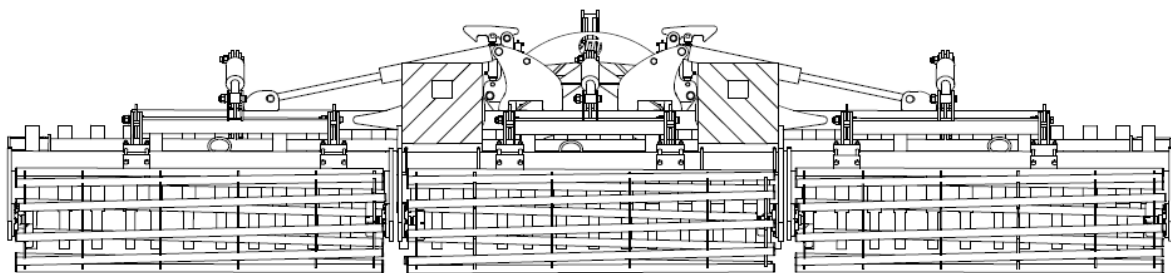

Fig. 8 View of the implement at the completion of the side extension opening sequence. The implement arms are fully open.
5. To complete the opening sequence of the implement side extensions, wait until the hydraulic mechanism opens the arms to their end position. Do not interrupt the opening process of the arm side extensions without ensuring that they are fully open (Fig. 8).